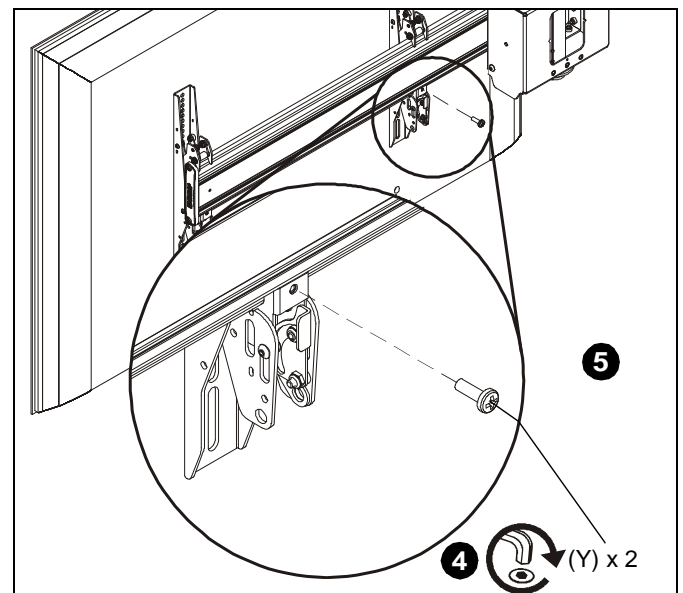

Figure 10
- Fasten bracket against ceiling mount extrusion using one 1/4-20 x 3/4" Phillips head machine screw (Y). (See Figure 10)